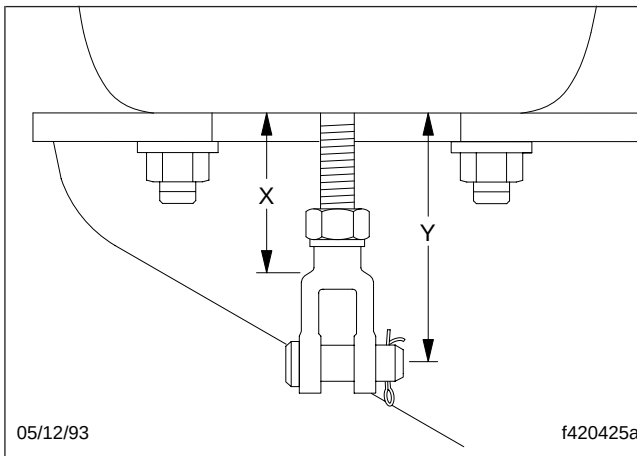

Fig. 3, Measuring X and Y
4. Make sure the parking brake has been released manually (the power spring has been caged). For instructions, see Subject 110. Also, make sure that the service brake piston is fully retracted (in the brakes "OFF" position). Then, record both of the following dimensions in either mm or inches, measuring outward from the base of the service brake chamber (see Fig. 3):